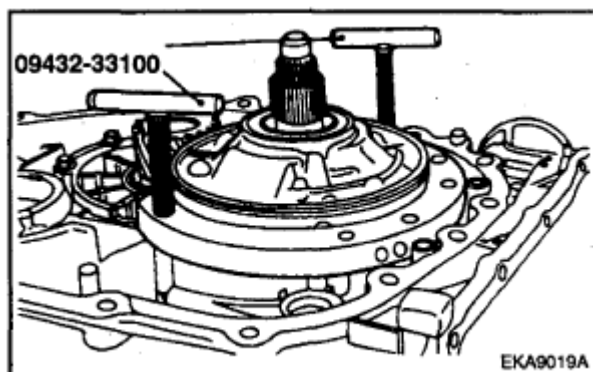

Fig. 33: Removing Oil Pump With Special Tool
31. Install the special tool (09452-33100), as shown in **Fig. 33**.